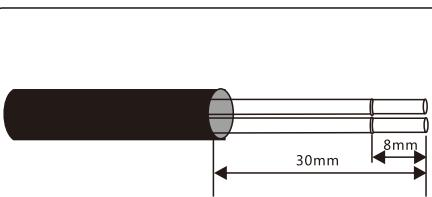

Figure 4.6
- Strip the insulation and shield to a suitable length. Use diagram below as a guide. (in Figure 4.6).
- Pull down the terminal block on user interface board(See Figure 4.6).
- Firstly insert cable into terminal board, then tighten the screws (dotted area) clockwise with slotted screwdriver; if user need to pull out cable, screws rotates anticlockwise with slotted screwdriver(See Figure 4.6).